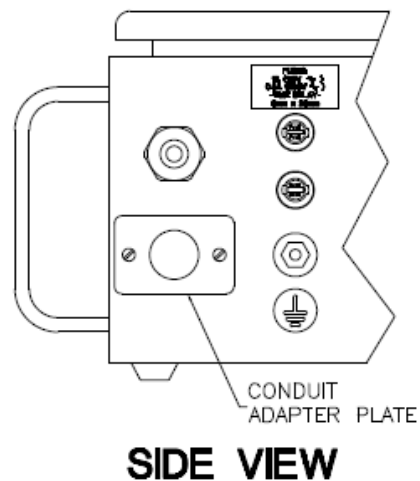

Figure 11: Installation of Conduit Adapter Plate
3. Install the Conduit Adapter Plate (supplied) in the hole where the AC inlet receptacle was removed (see Figure 11).